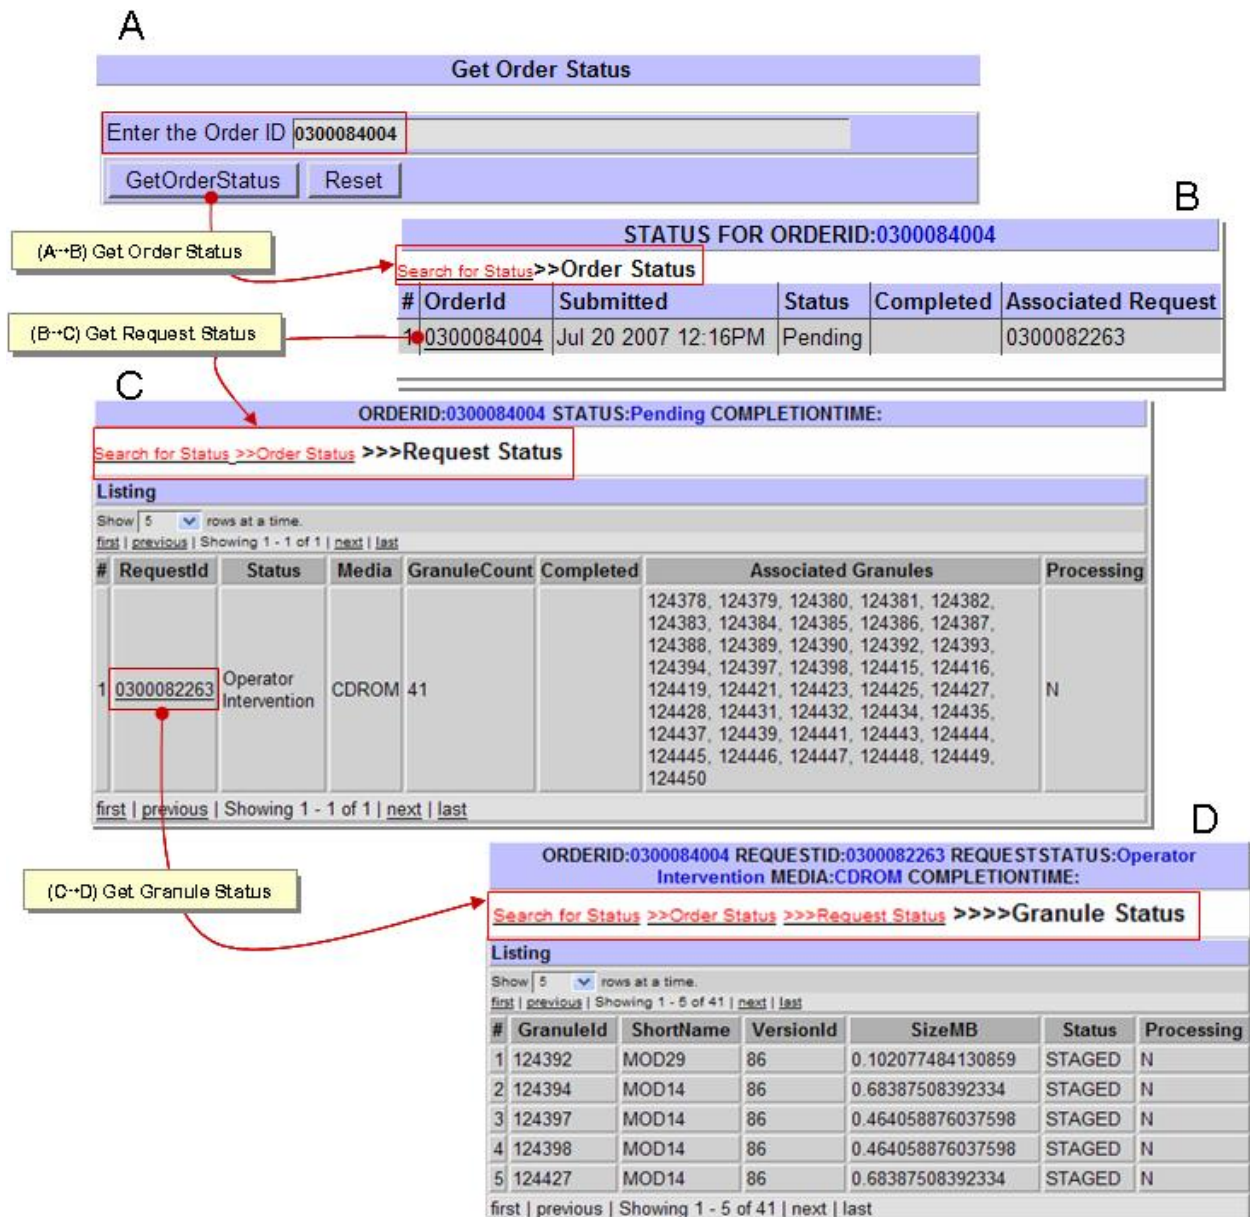

Figure 15.13-4. Order Status Details Pages (A-D)
- ▶ From the **Get Order Status** page (Figure 15.13-4, Frame A), **Enter the Order ID** number (the complete 10-digit order id). Example: 03000084004 given.
- ▶ Click the **GetOrderStatus** button to retrieve the most current **STATUS FOR ORDERID:<OrderID>** page (Figure 15.13-4, Frame B).
- ▶ Click the **OrderId <number>** under the OrderId column of the page to display the **Listing** details of the **Request Status** (Figure 15.13-4, Frame C).
- ▶ Click the **RequestId <number>** under the **RequestId** column to display the details of the **Granule Status** (Figure 15.13-4, Frame D).
- 10 Using the navigation bar, click the **Search for Status** link to return to the **Get Order Status** page (Figure 15.13-4, Frame A) and to continue seaching other order statuses.